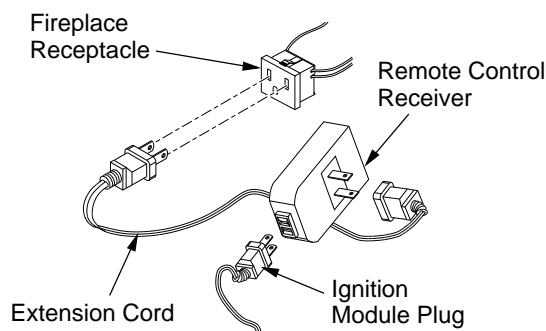

Figure 14 - Installing the WRC Remote Receiver
2. The WRC model receiver does not require a battery. The receiver can be installed by first plugging the short extension cord into the fireplace receptacle. Then plug the receiver unit into the extension cord. Finally plug the ignition module plug into the receiver unit (see Figure 14).